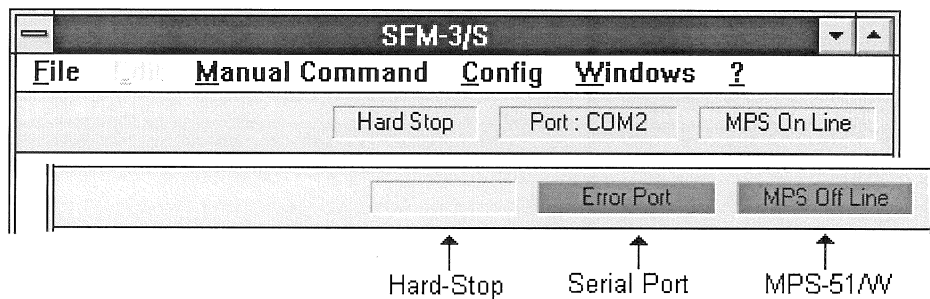

Figure 9 :
**Note 2 :** If the-hard stop option is checked, "Hard-Stop" will be written in the status panel (see figure 9).
The communication with the MPS-51/W device is established in a two-step procedure. Firstly, a serial port is opened. Secondly, if the serial port communication is possible, a signal is send through the port and the connected device will give an answer. If the answer is correct the communication is established. After connection has been established, the computer will send messages to MPS-51/W device at regular time intervals (55 ms) to check the communication continuously. So if the answer is not correct (MPS-51/W turned off or any other event) the computer will inform the user of the defect (in status panel, see figure 9).
- Select a serial port (without checking "Connect Device"), and click on OK button. This will attempt to open the serial port. If the operation succeeds the port number is written in the status panel, (see figure 9), if it fails : "error port" is written.
- If the serial port is opened, then click on "Connect Device" to check the option, and click on **O**K button (or press <Enter> on keyboard) to establish communication with MPS-51/W device. If the operation succeeds, "MPS On Line" is written in status panel.(see figure 9)